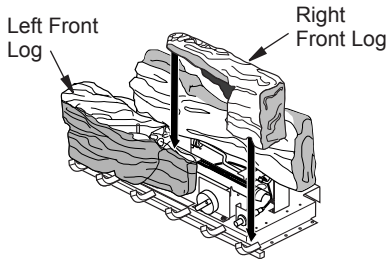

Figure 19 - Left and Right Front Log Placement (Variable Manually-Controlled Models)
2. Place left front log on grate fingers as shown in Figure 19, page 16. Place right front log on grate fingers and on left front log (see Figure 19, page 16).